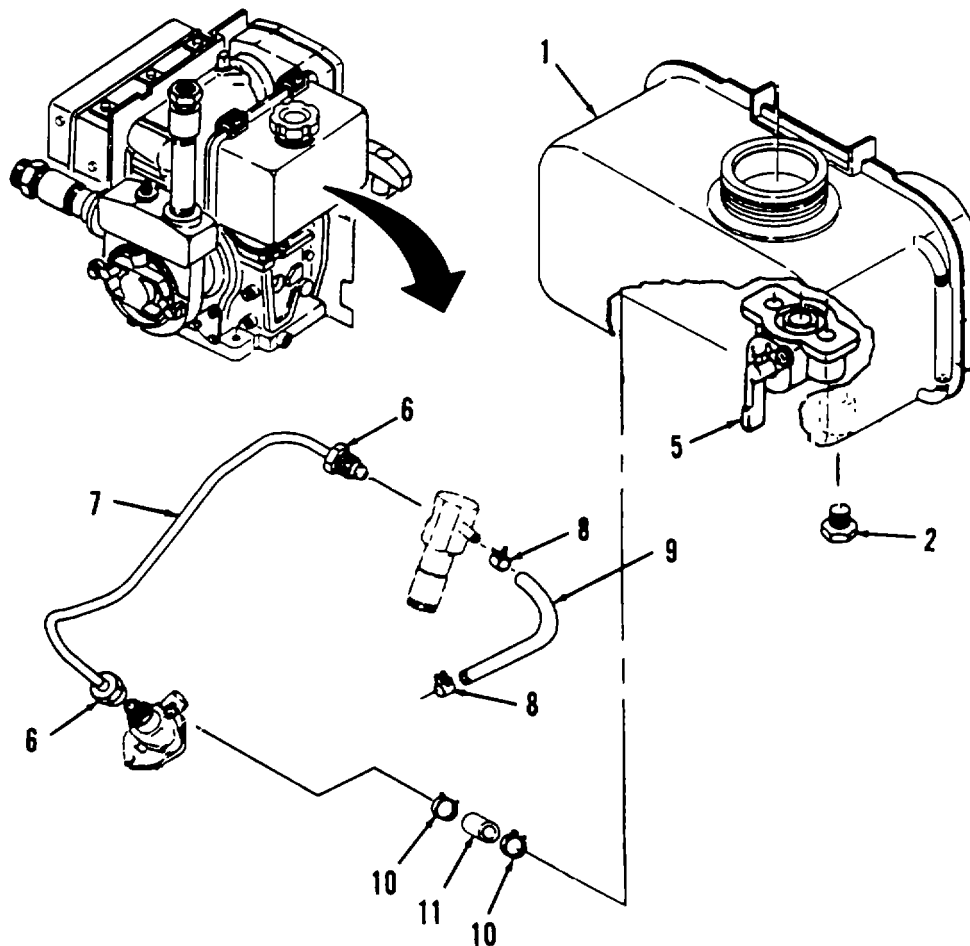

Figure 4-22. Fuel Lines Replacement.
a. Removal (Refer to Figure 4-22).
- (1) Drain all fuel from fuel tank (1) by removing drain plug (2) at bottom of the tank. Dispose of fuel per FM 10-69.
- (2) Turn fuel cock (5) to OFF position.
- (3) Loosen connectors (6) at each end of fuel injection pipe (7).
- (4) Remove fuel injection pipe (7).
- (5) Remove two clamps (8), hose (9), two hose bands (10), and hose (11).
- (6) Wipe up any fuel that has leaked during removal